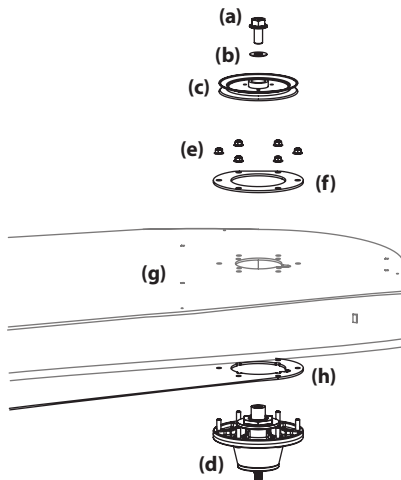

Figure 4-29
6. Remove the hex flange bolts (a) and flat washers (b) securing the left and right spindle pulleys (c) to the spindle assembly (d). See Figure 4-29.
7. Remove the six (6) flange lock nuts (e) securing the left and right spindle assemblies (d) and the support plates (f) to the deck shell (g). See Figure 4-29.
10. Reverse the process to install the spindle assembly. When installing the new spindle assembly be sure to install the hardware exactly as shown in Figure 4-29. Torque the hex flange bolts to 250 ft-lbs. and the flange lock nuts to 21-32 ft-lbs.